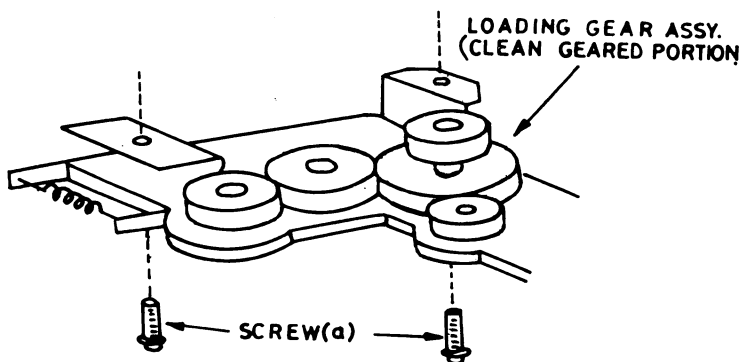

Fig. 10.10
3. Remove the two screws (a) to remove the loading gear assembly as shown in fig. 10.10